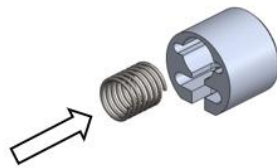

Fig 1
1. Open the peeler and place it over the pipe section to be peeled, observing the position of the cutting blade on the pipe. The brass lever can be used to retract the blade to allow precise positioning (Figure 1)
1. Remove the two screws (E) holding the cutter blade mechanism from the Split Peeler.
2. Insert the Spring (C) into the Cap (Fig 1).